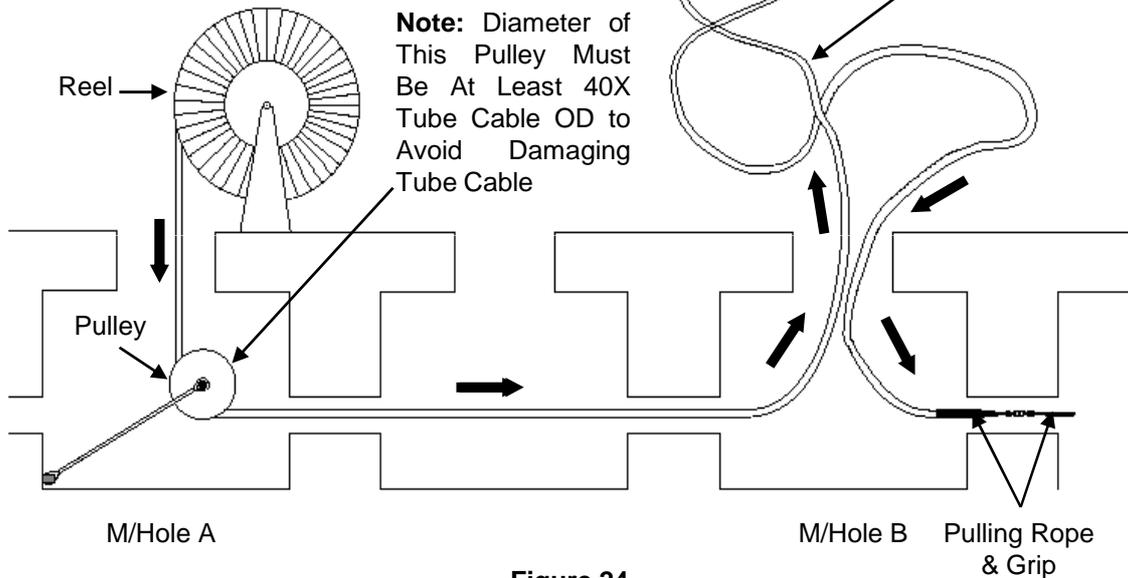

Figure 24
17.4.2 Basic installation sequence is shown in **Fig. 24.**